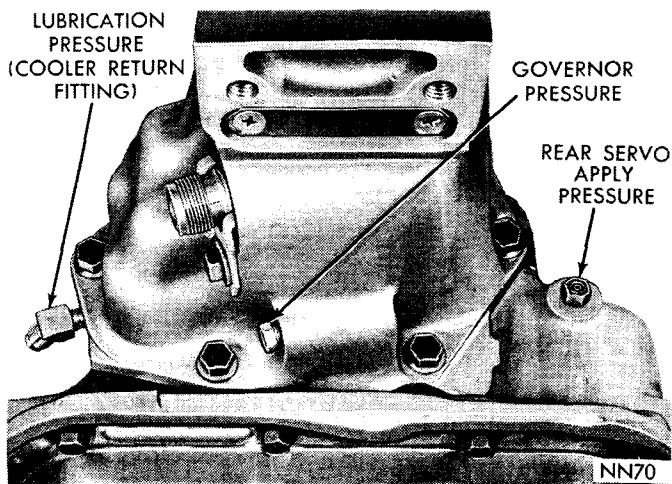

Fig. 2—Pressure Test Locations (Rear End of Case)
(1) Connect a 0-100 psi pressure gauge, to governor pressure take-off point, located at lower left side of extension near the mounting flange (Fig. 2).
(2) Operate transmission in third gear to read pressures and compare speeds shown in chart.